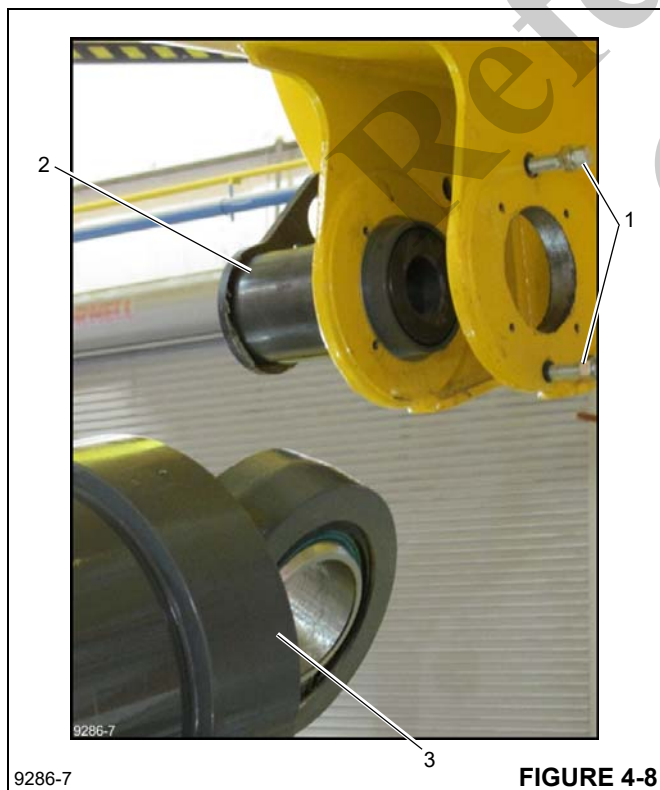

FIGURE 4-8
14. Unscrew stop bolts (1, Figure 4-8) on other side of boom.
17. Pull lift cylinder pin (2, Figure 4-8) far enough out that the cylinder (3) will clear it, tag and remove the shims and bushing/plates on the pin.